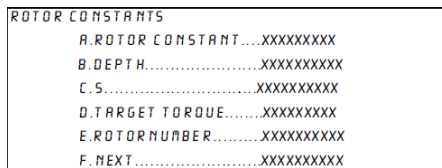

Figure 20: Rotor constants screen
9. Select **A**. The **Rotor Constants** screen will appear as shown in Figure 20.